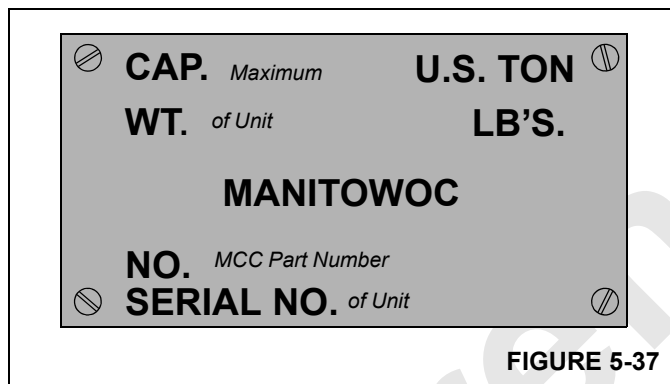

FIGURE 5-37
- Do not remove or deface nameplate (Figure 5-37) attached to load blocks and hook-and-weight balls.